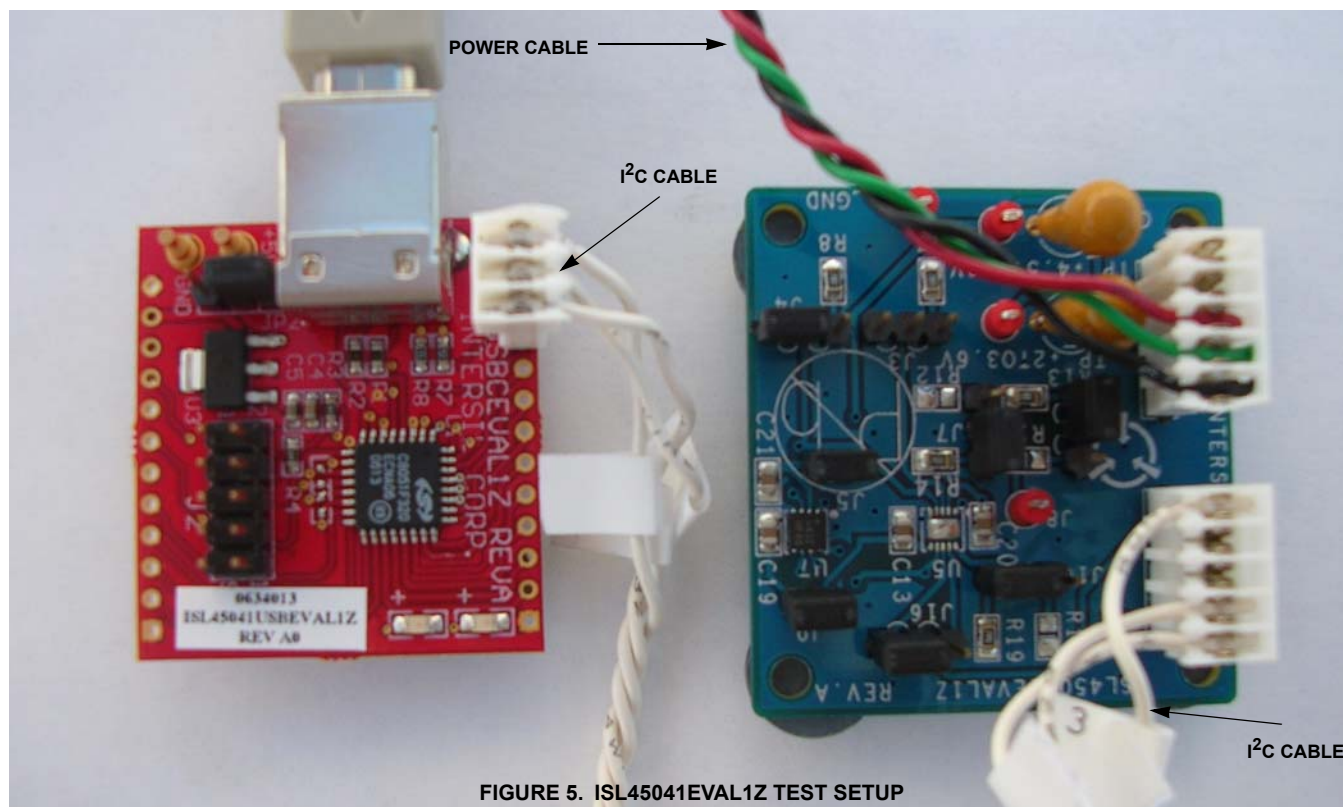

FIGURE 5. ISL45041EVAL1Z TEST SETUP
1. Connect the ISL45041EVAL1Z board to the Intersil USB controller board as shown in Figure 5. Note: Connect the I²C cable as shown in Figure 5.
3. Connect the power supply cable to the ISL45041EVAL1Z board. Note: Connect the power cable as shown in Figure 5. Turn on the power supplies to power up the ISL45041EVAL1Z board (make sure the cables are connected properly -- **RED = AVDD; GREEN = VDD; BLACK = GND**).